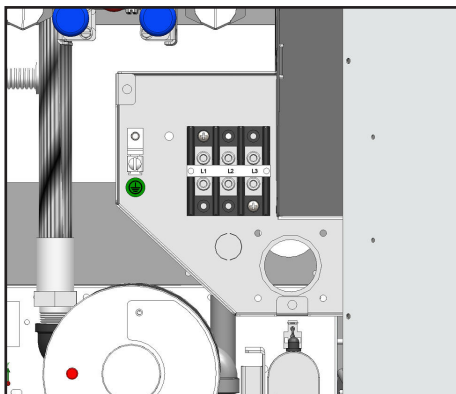

Figure 2.6.3 - Wire housing strain relief hole: 2" or 1.75" diameter.
3. Referring to figure 2.6.3, Install cable strain relief in housing cutout (1). Attach power cable wires to terminal block (2) per connection diagram on fryer door.